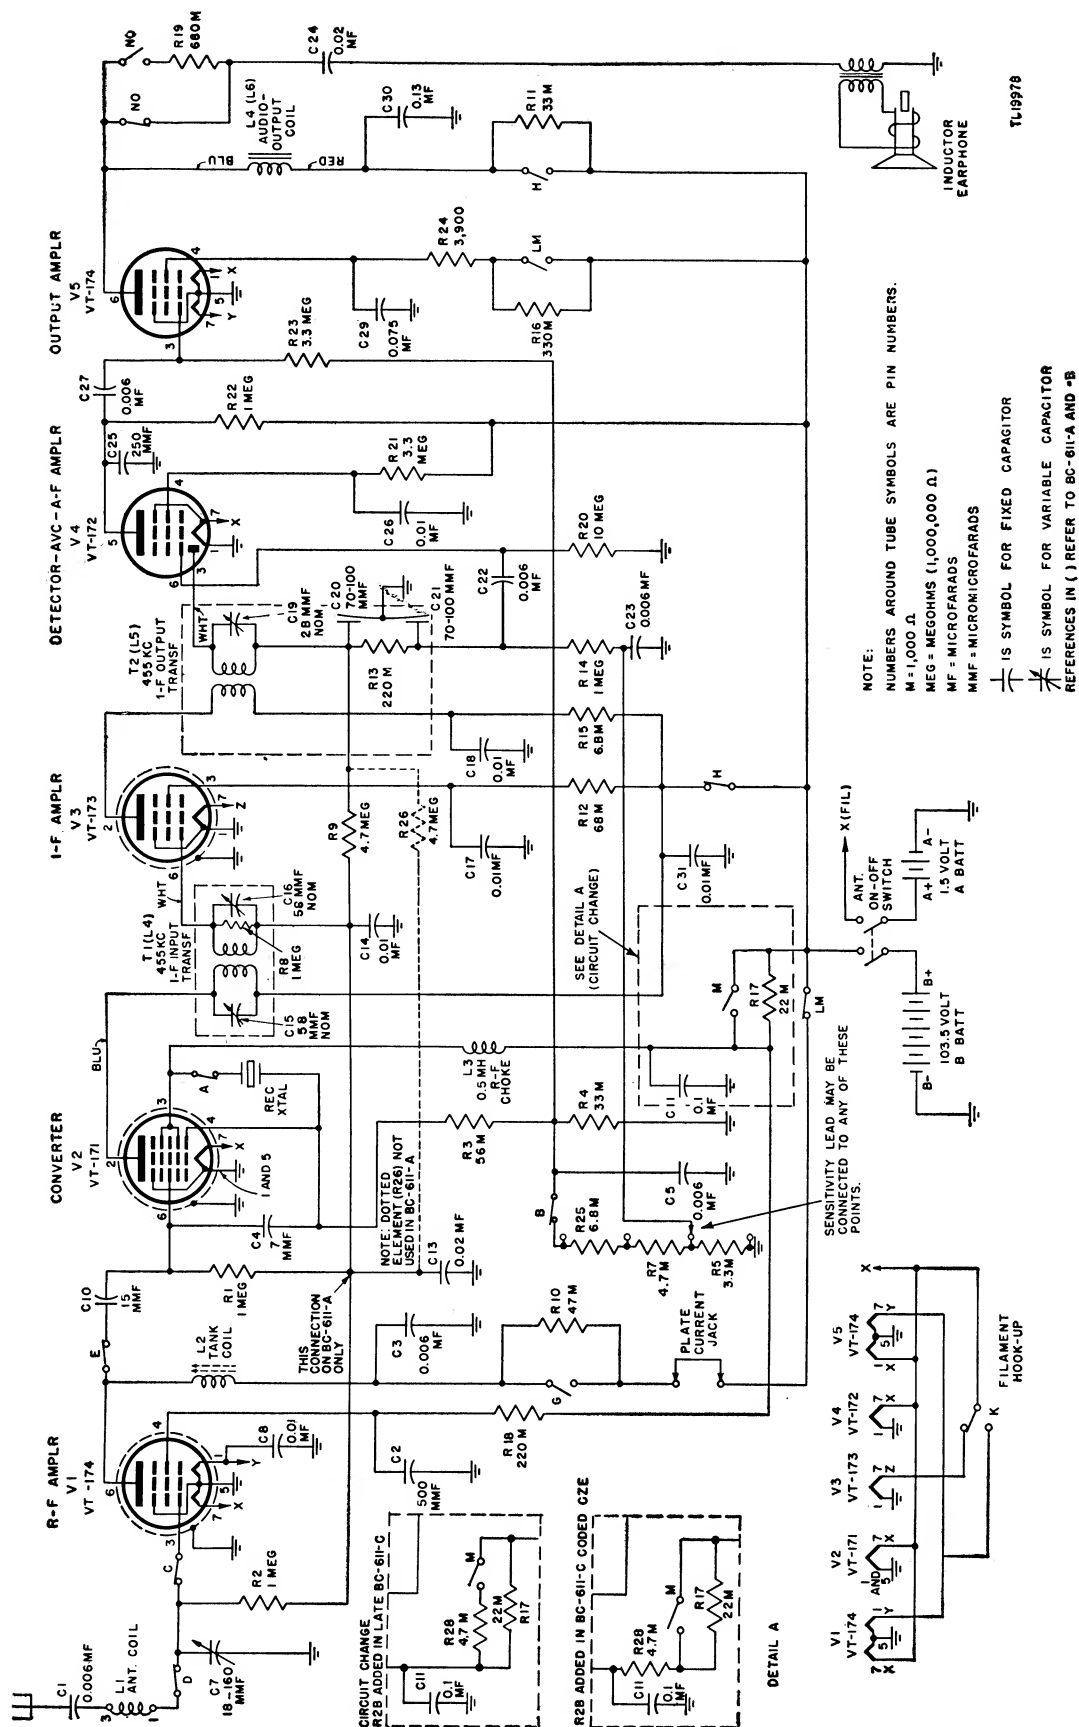

Figure 50. Radio Sets SCR-536-A through -E, functional diagram of receiver.
The following paragraphs describe the function of each circuit element in the receiver and transmitter circuits. See the functional and complete schematic diagrams in figures 50 to 55.
(4) Functional schematic diagrams. (See figs. 50 through 53.) These diagrams are particularly useful in trouble shooting, because the repairman can follow the electrical functioning of the circuits more easily than on the regular schematics, thus speeding trouble location.